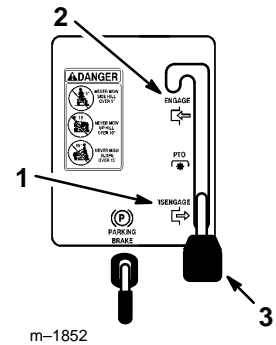

Figure 7
4. Move the blade control (PTO) to "DISENGAGED" (Fig. 7).